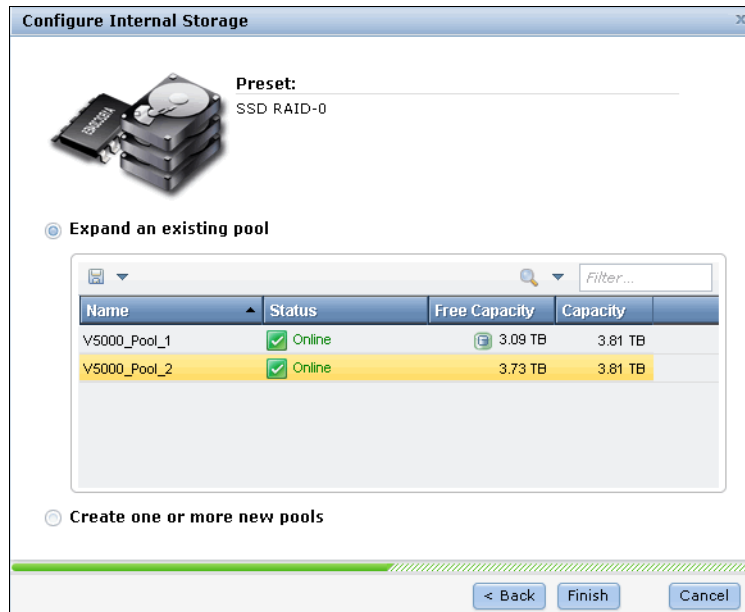

Figure 9-14 Expand an existing pool
- To create a multitiered storage pool, the SSD must be added to an existing generic HDD pool. Select **Expand an existing pool** (as shown in Figure 9-14) and select the pool that you want to change to a multitiered storage pool. In our example, V5000_Pool_2 is selected. Click **Finish**.